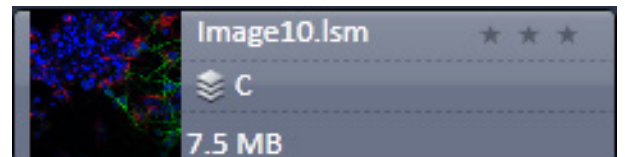

Fig. 765 2 Ch. Z-Stack image
- Example of a 2 Ch. Z-Stack displayed with a small thumbnail in the **Images and Documents** section (Fig. 765).